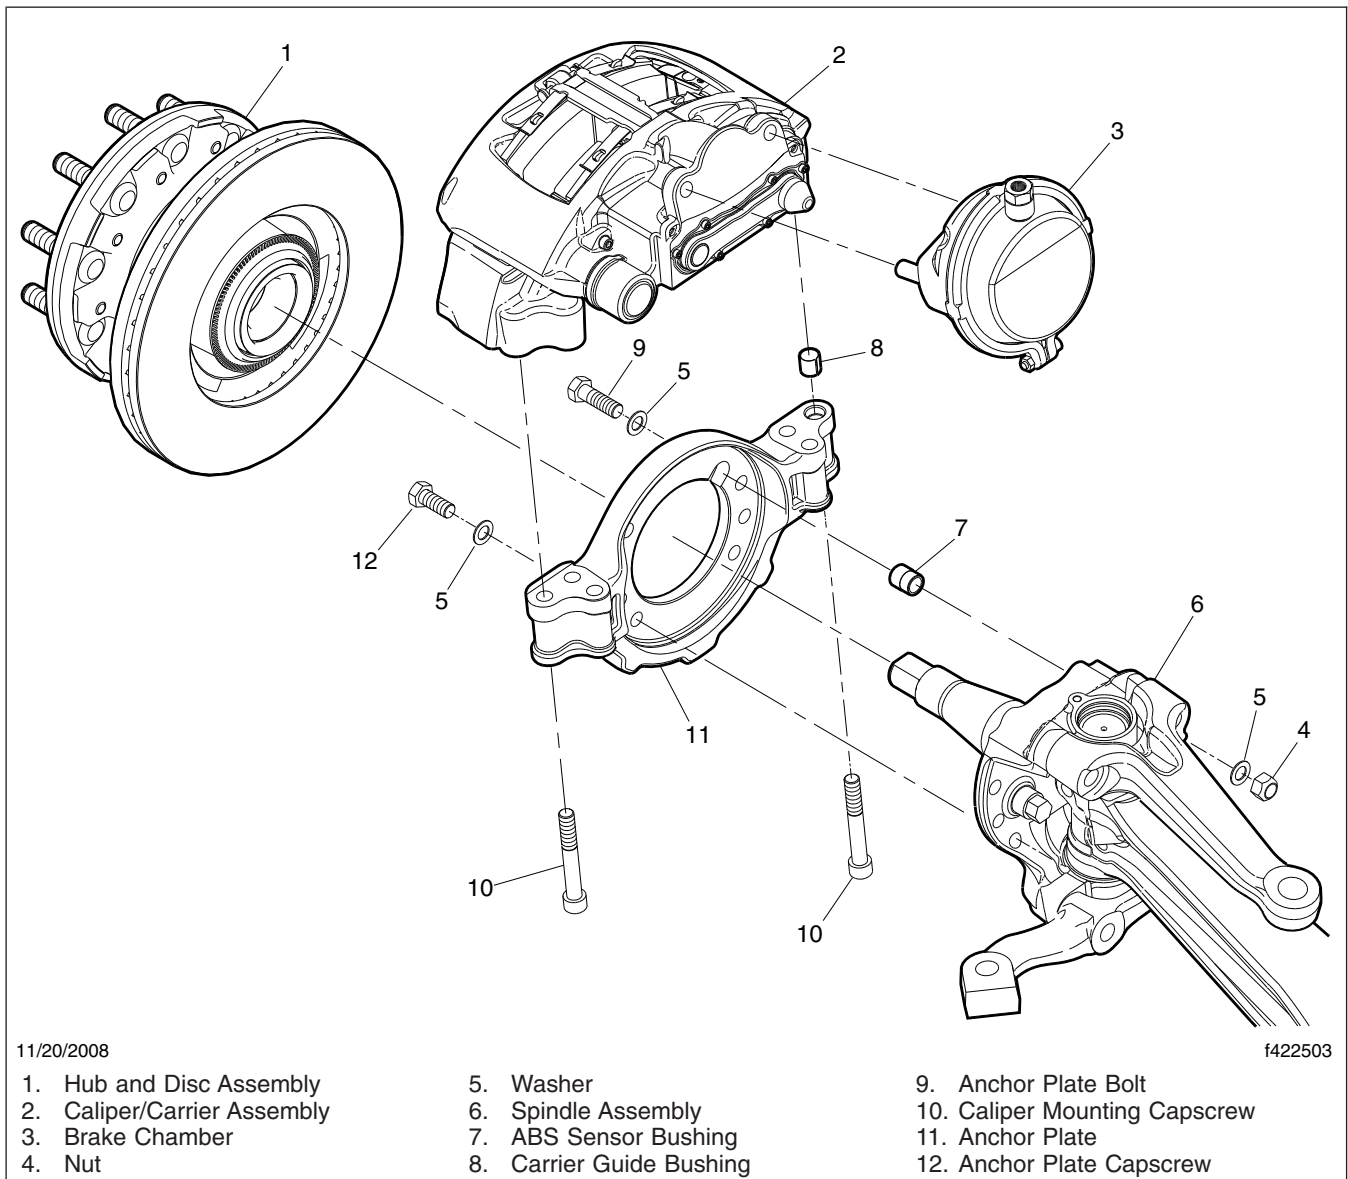

Fig. 2, Front Caliper and Carrier Assembly Installation
5. Remove the brake caliper as follows. Refer to **Fig. 2** for front caliper/carrier removal and installation.